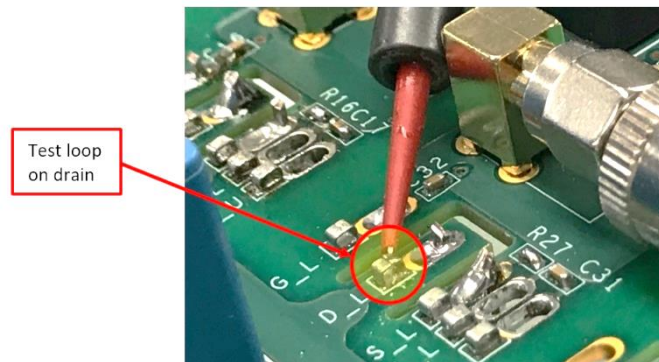

Figure 12. Test Point on the drain (TO-247-4 footprint)
Cree's KIT-CRD-3DD12P, Buck-Boost Evaluation Kit comes with many test points (as shown in Figure 11 (a) and Figure 11(b)) to make it convenient for users to capture critical waveforms such as drain to source voltage (VDS), gate to source voltage (VGS), and drain current (ID). It is critical to take these measurements as close as possible to the device pins. On the bottom side of the evaluation kit's PCB board, there is a test loop placed right next to the device pins for both TO-247-3 or TO-247-4 footprints (as shown in Figure 12). The test loop makes it convenient for the users to attach the clip-on probes to the PCB board.